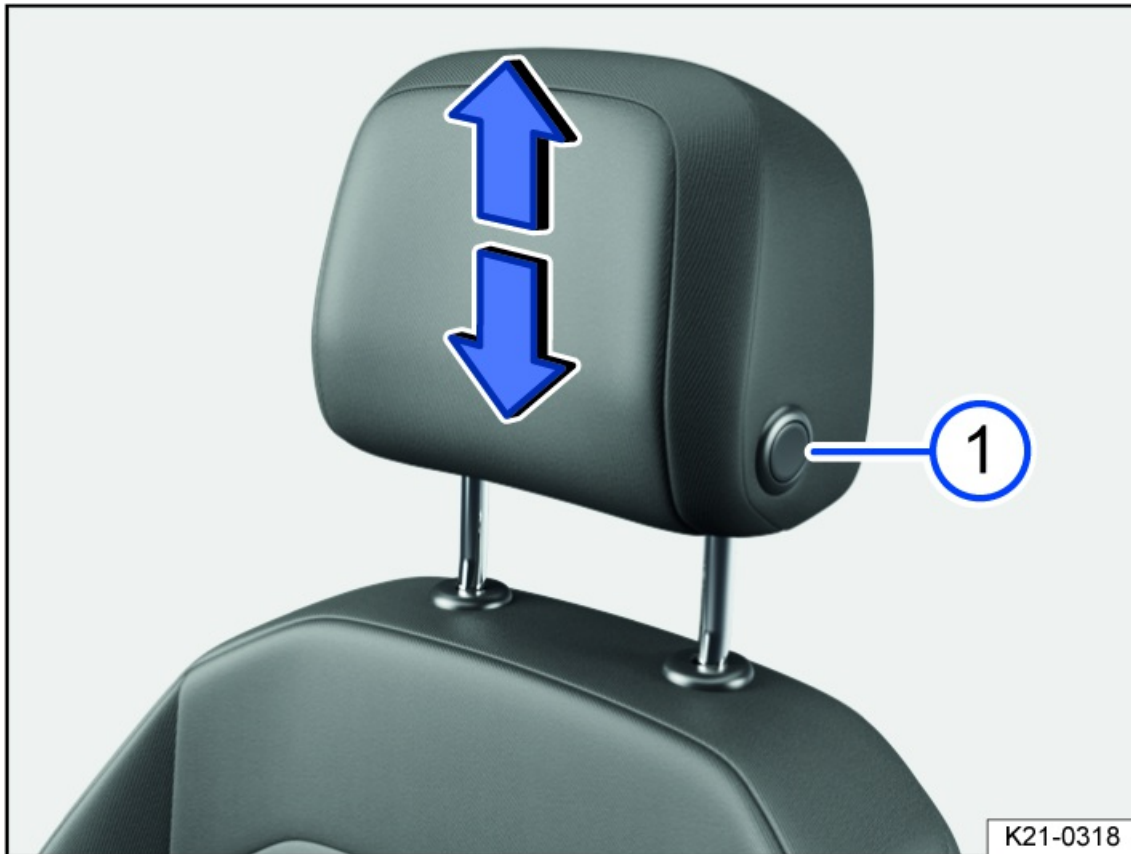

Fig. 71 Adjusting the front head restraint (general example).
1. If necessary, slide the head restraint upward or downward in the direction of the arrow and when pressing the button. *fig. 71*